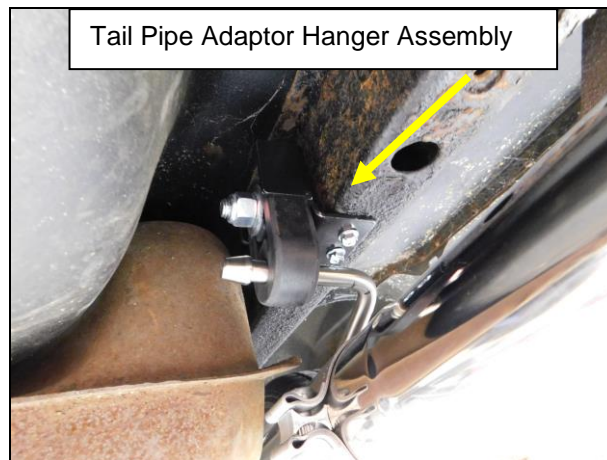

Figure 10
18. Install a 2.5" band clamp on to the left tailpipe adapter expanded end. Install the expanded end of the tailpipe adapter on to the over-axle pipe with the hanger rod facing inward. Insert the hanger rod into the rubber isolator (**Figure 10**).